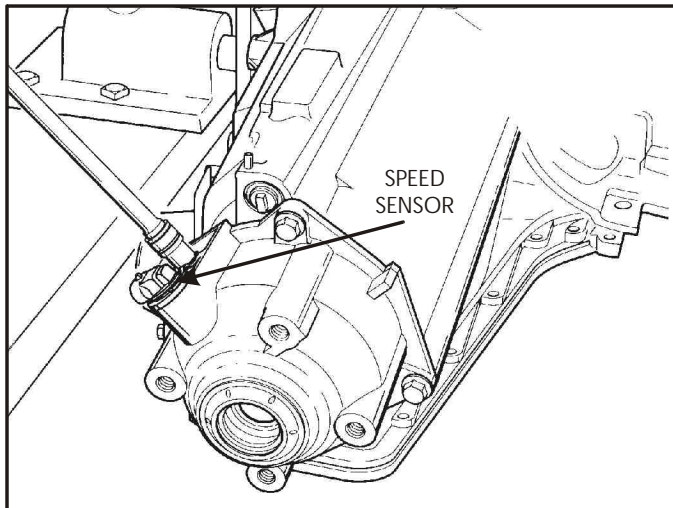

Figure 36
12. Remove the Vehicle Speed Sensor from the final drive housing using a 10mm socket, as shown in Figure 36. Take special care when removing the speed sensor assembly and set aside from the other transaxle components.